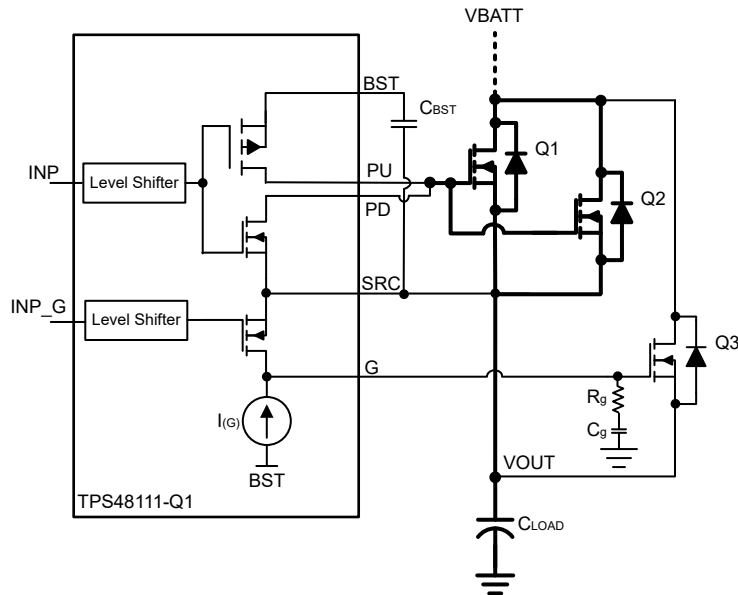

Figure 9-7. Capacitor Charging Using Gate Slew Rate Control of Precharge FET
The TPS4811-Q1 integrates precharge gate driver (G) with a dedicated control input (INP_G). This feature can be used to drive a separate FET that can be used to precharge the capacitive load. Figure 9-7 shows the precharge FET implementation for capacitive load charging using TPS4811-Q1. An external capacitor C_g reduces the gate turn-ON slew rate and controls the inrush current.